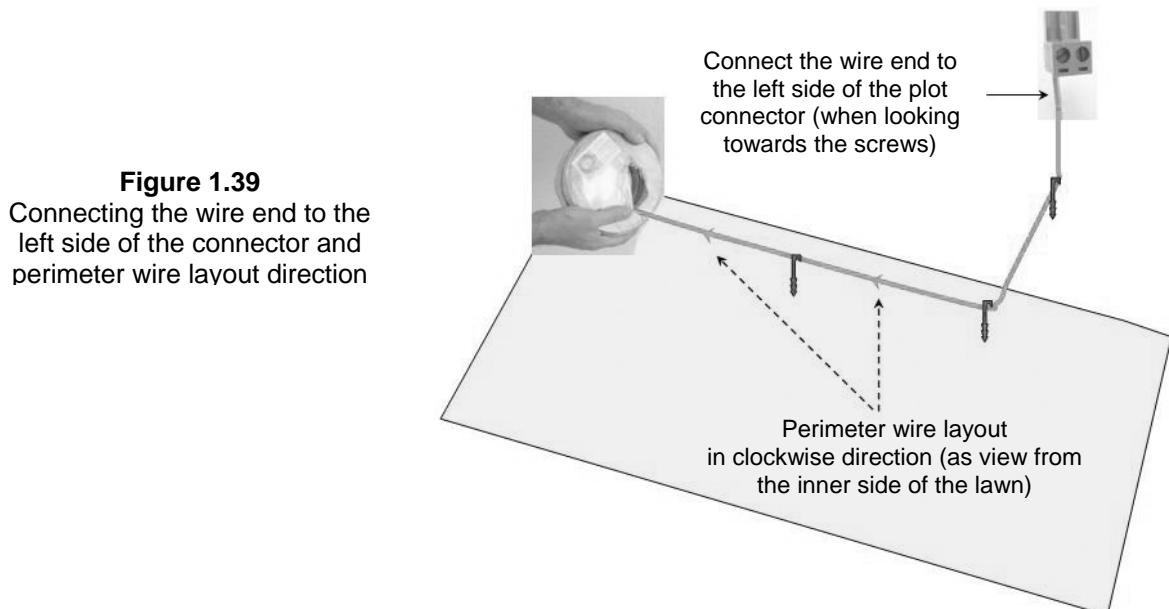

Figure 1.39
- Insert the wire end to the left side of the plot connector, as shown in figure 1.39 and tighten the screw.
- Start laying the wire to the counterclockwise direction when standing inside the lawn, as show in Figure 1.39.